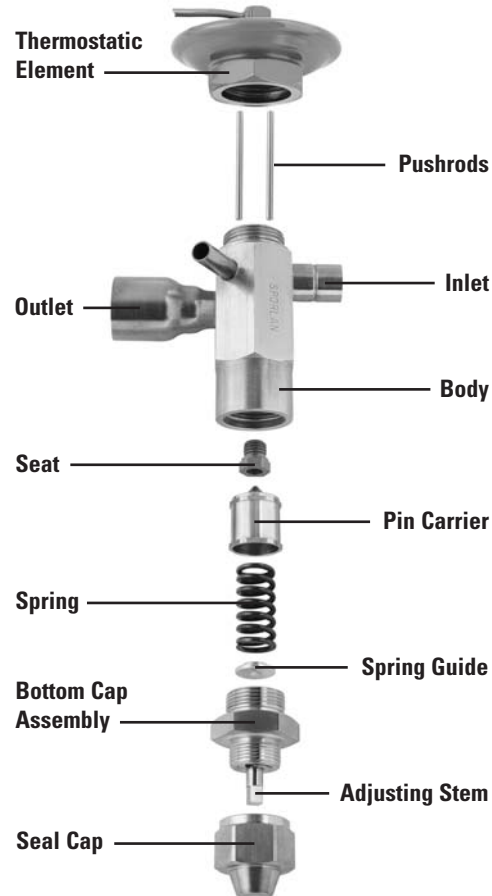

Figure 9
**Note:** These Field Assembly Instructions apply in part to all Sporlan TEVs. See Figure 9 for an “exploded” view of those models that can be completely disassembled. When a TEV is to be disassembled for inspection and cleaning, or for replacement of the thermostatic element or the internal parts, the following information should be reviewed for assistance.